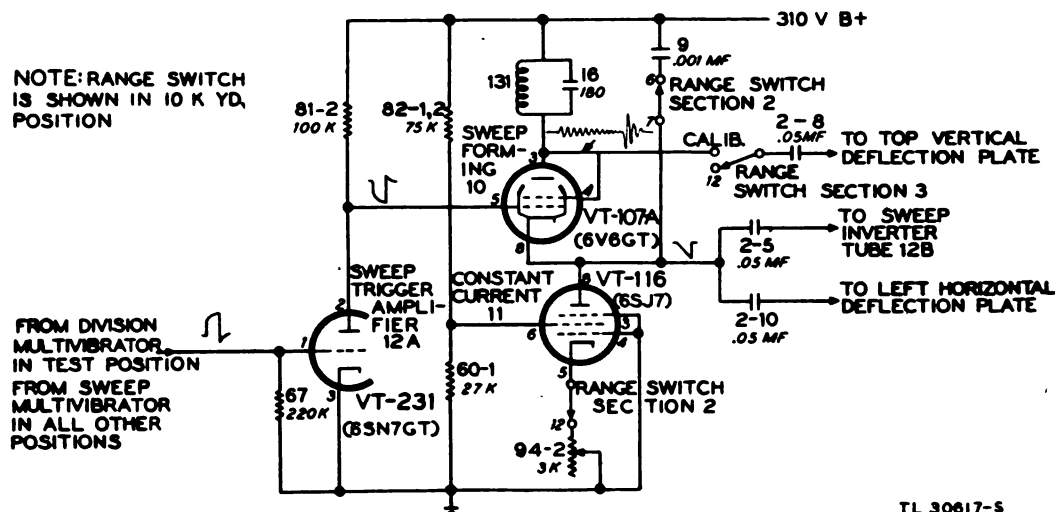

Figure 45. Sweep-forming circuits.
#### 40. SWEEP-FORMING CIRCUITS (fig. 45).
(2) A 200-kc ringing circuit, consisting of coil 131 and capacitor 16, is in series with B+ and the plate of tube 10. The ringing circuit is of no importance to the sweep-forming function of the circuit and its operation is incidental to the sweep-forming operation although the time of ringing is set by the sweep-forming operation.
(3) Tube 10 normally conducts and the voltage drop from B+ to the cathode of tube 10 is normally low. This same low voltage drop also appears across one of three capacitors (as selected by the range switch), wired in parallel with tube 10 and the ringing circuit. Figure 45 shows the range switch set at 10 K YD. when capacitor 9 (0.001 microfarad) is connected between B+ and the cathode of tube 10. The same capacitor is in the circuit in the CALIB. position of the range switch. It is replaced by capacitor 10 (0.015 microfarad) in the 75 K YD. position, or by capacitor 2-6 (0.05 microfarad) in the TEST position (fig. 57).
(1) In its sweep-forming function, tube 10 acts simply as a switch across the parallel capacitor (capacitor 9 in the switch position chosen for fig. 45). The negative voltage pulse from the plate of tube 12A cuts off tube 10, keeps it cut off for the duration of the pulse, and quickly brings it back to the conducting state at the end of the pulse.
(2) If tube 11 were to be considered as a fixed resistor, the sweep-forming action would be as follows: As soon as tube 10 is cut off, capacitor 9 starts to charge to a higher value. As the voltage
**d. Calibrating Waves.** As tube 10 is cut off by the negative sweep trigger pulse, plate current through coil 131 suddenly stops, and the tuned circuit is shocked into slowly damped oscillation. As soon as conduction begins again, a new oscillation is set up, more violent than the previous one because of the added energy of the plate current. The d-c plate current, however, quickly damps the new oscillation. These conditions are shown in the waveform at the plate of tube 10 (fig. 45). The reason that the straight line at the left and the violent oscillations at the right of the waveform (fig. 45) are not seen on the display screen (fig. 37) is that there is no sweep on the screen at these times. The sweep trigger start is synchronous with the first positive sinusoidal rise at the left end; the sweep trigger finish causes the violent oscillations at the right end.